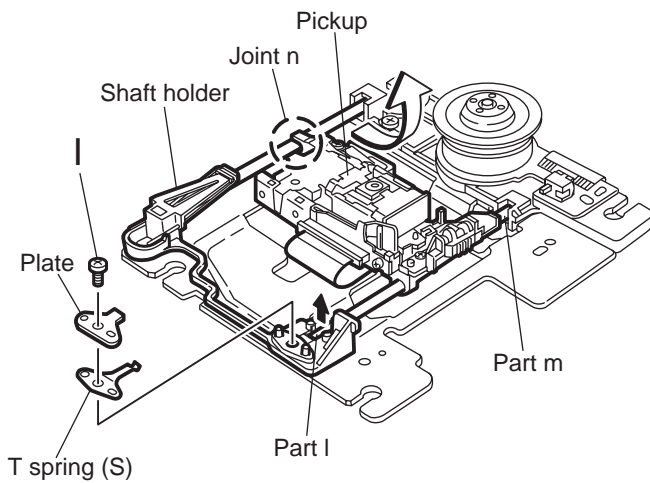

Fig.2-4-2e
2.4.2.3 Removing the pickup (See Fig.2-4-2e and 2-4-2g)